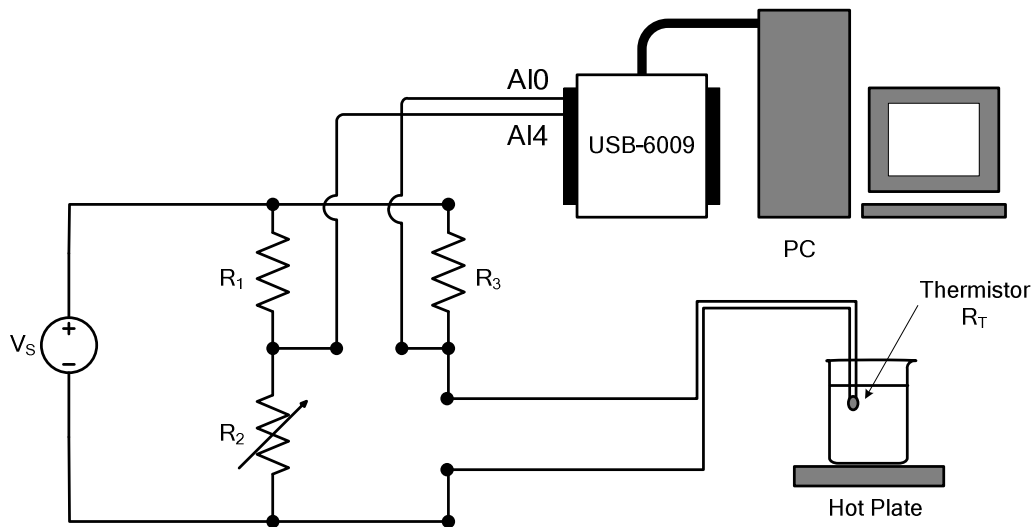
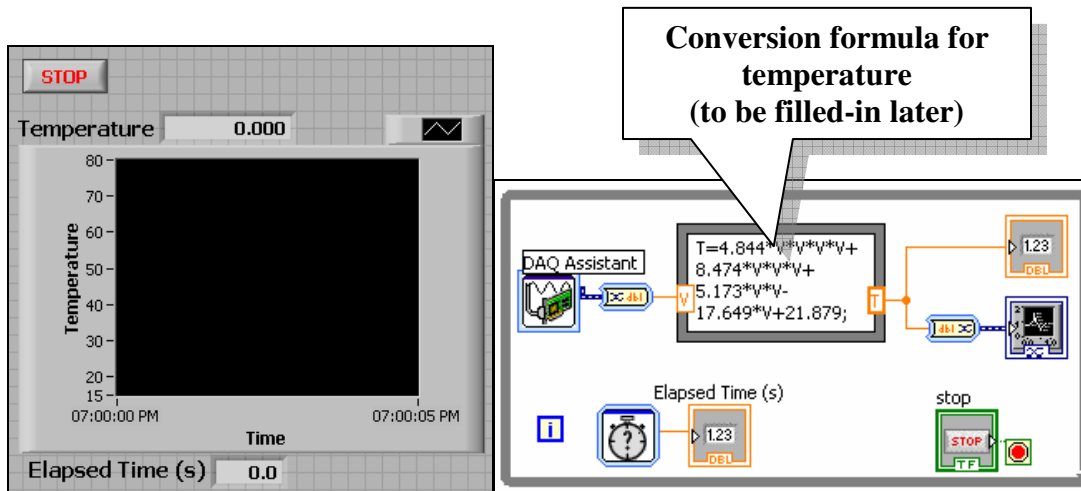

Figure 3
Figure 4. Thermistor VI
1. Prepare the setup shown in Figure 3 and the **Thermistor VI** in Figure 4.
- Modify the entry in the “Formula Node” block shown in Figure 4, using the conversion formula obtained in step 4.